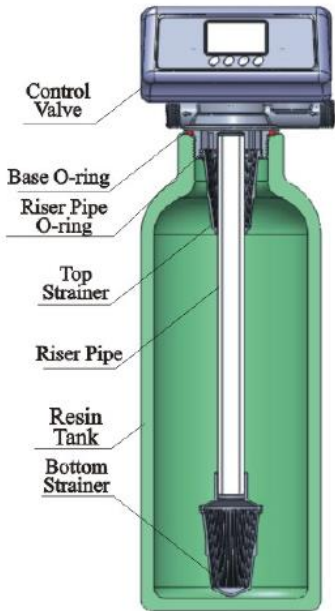

Figure1-1
a. As the figure1-1 shows, select the relevant riser pipe, glue the riser pipe to the bottom strainer and put it into the mineral tank, cut off the exceeding tube out of tank top opening. Plug the riser tube in case of mineral entering.